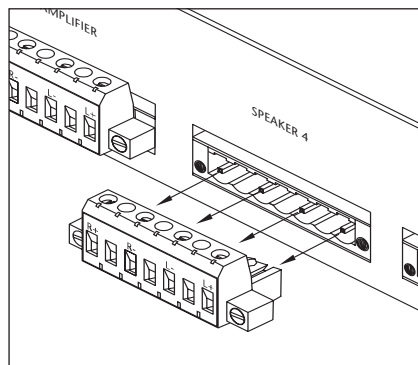

Figure 3
3. Make the connections to the speaker selector. The amplifier/speaker connectors on the HPS are removable. If you wish, you may remove the HPS's connectors to facilitate installation see (Figure 3). Strip 3/8" of insulation from the end of each wire. Tightly twist the end of each wire until there are no frayed ends. Insert each wire into the appropriate hole on the connector terminals. Be certain that proper phasing is observed—connect the positive terminals on the HPS to the positive terminals on the amplifier and speakers and the negative terminals on the HPS to the negative terminals on the amplifier and speakers. Re-install the connectors if they were removed. See (Figure 4).